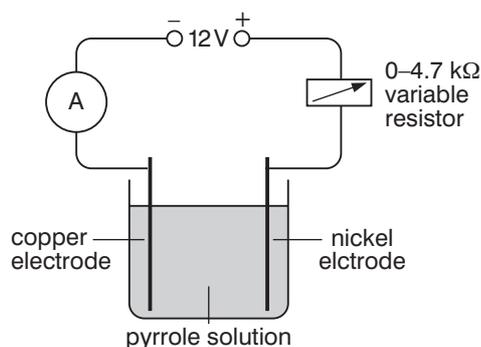

Figure 1 Making poly(pyrrole)
- Pour the pyrrole solution into the 250 cm3 beaker and set up the circuit illustrated in Figure 1.